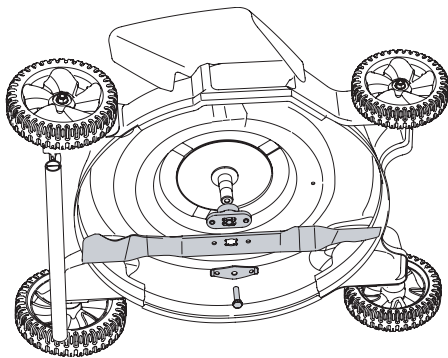

Figure 13
3. Remove the bolt and the blade bell support which hold the blade and the blade adapter to the engine crankshaft. See Figure 13.
9. Install the blade adapter on the crankshaft with the "star" away from the engine. See Figure 13. Place the blade with the side marked "bottom" (or with part number) facing away from the adapter. Align the blade bell support over the blade with the tabs in the holes of the blade and insert the hex bolt.